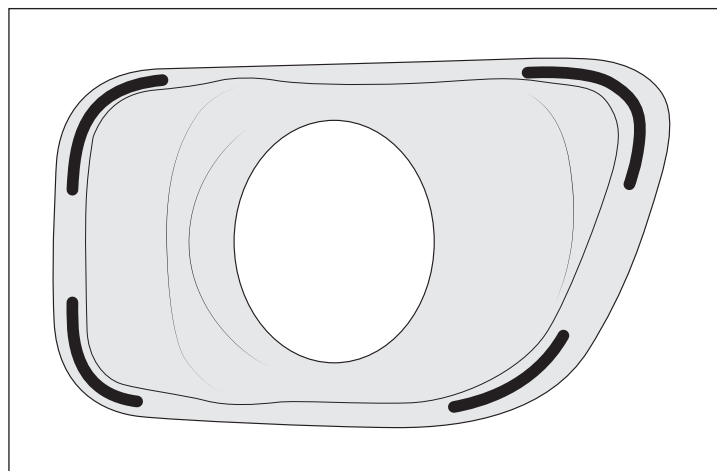

Figure 39
1. Clean the backside of the Lamp Bezels with alcohol. Apply approximately 3" long beads of black RTV at all four corners of the bezels (fig. 39).